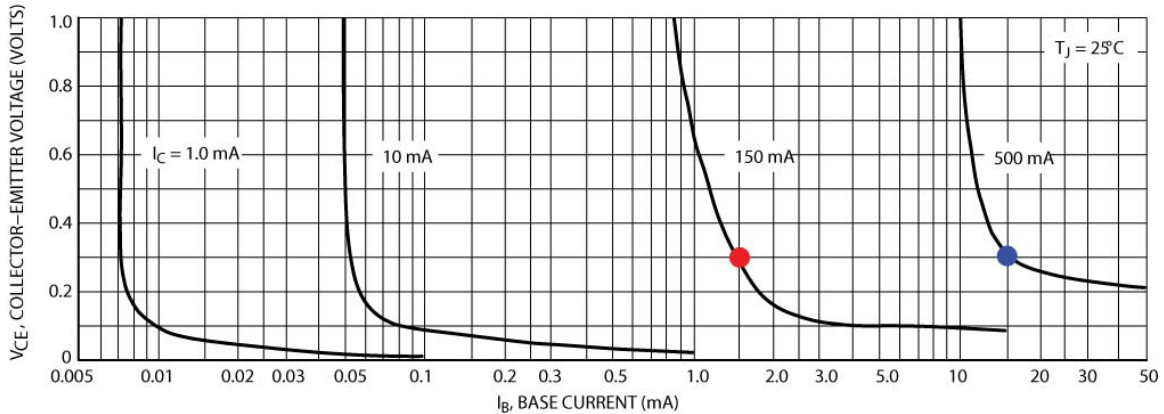

Figure 21: Base and Collector Currents in the Saturation Region of a MPS2222A
- Also note in Figure 21 that at a given collector current, if the base current driving the transistor is too small, the collector-emitter voltage (V_{CE}) rises dramatically above the $V_{CE(\text{SAT})}$. As a result, the performance of the transistor as a switch drops off because of the increase voltage drop across the collector-emitter terminals.